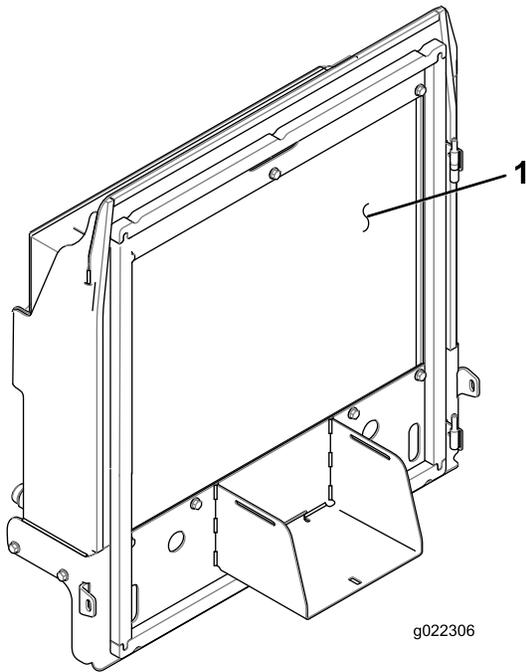

Figure 44
4. Thoroughly clean both sides of the and the radiator/oil cooler (Figure 44) with compressed air.